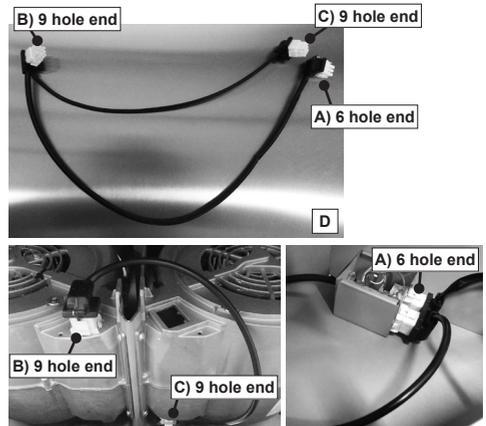

FIGURE 11
5. Connect the wire cable **D** (which is located inside of Kit Internal 1,200 cfm PRO Blower sku #; IB1200). Connect the 6 hole end (**A**) to the wire box and connect the 9 hole end (**B-C**) to the two motors (Figure 11).